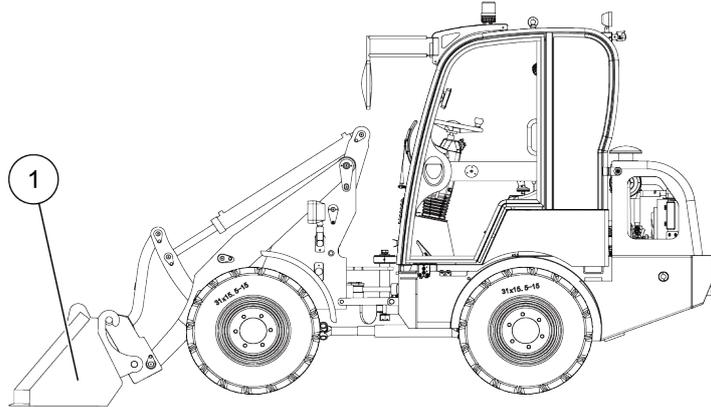

Figure 5-31 Stopped state
Step 2: Select the parking position of the loader, choose a flat ground as far as possible, and put the bucket (1) to the ground, as shown in Figure 5-31;